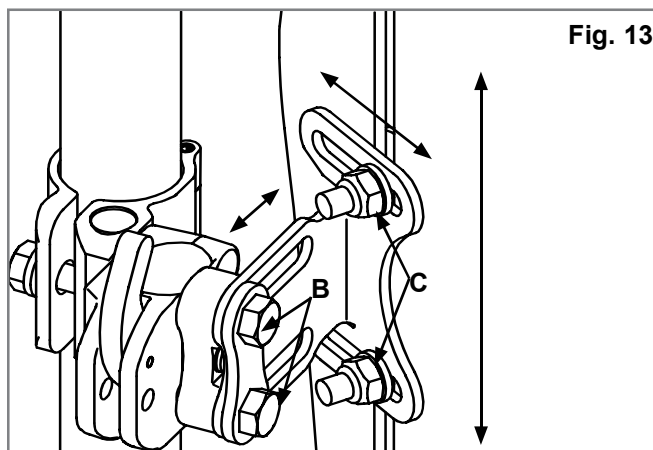

Fig. 13
- Adjust the back to your desired position, (Fig.13), depth, tilt and height and then hand tighten Screws (B) and Nuts (C).